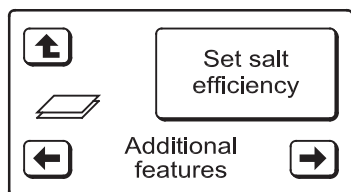

FIG. 65
5. Press the **LEFT** (←) button to display the screen shown in Figure 65.